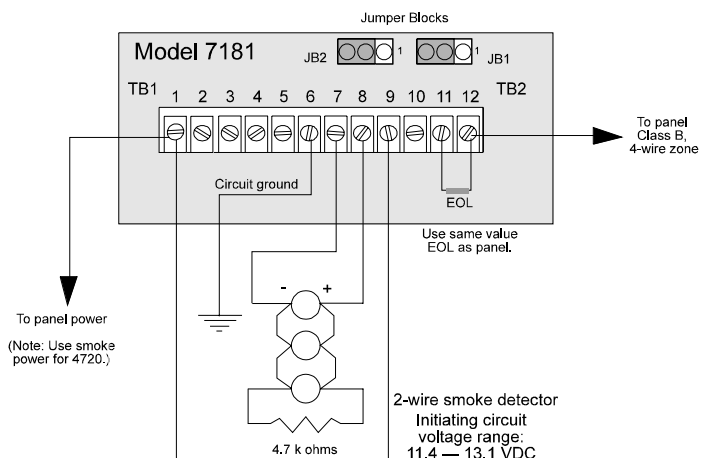

Figure 6-A: Four-Wire to Two-Wire Conversion, 12V Panel
2. Connect the two-wire smoke detectors as shown in figures 6-A and 6-B (next page). The ESL 425CT smoke detector is used as an example.